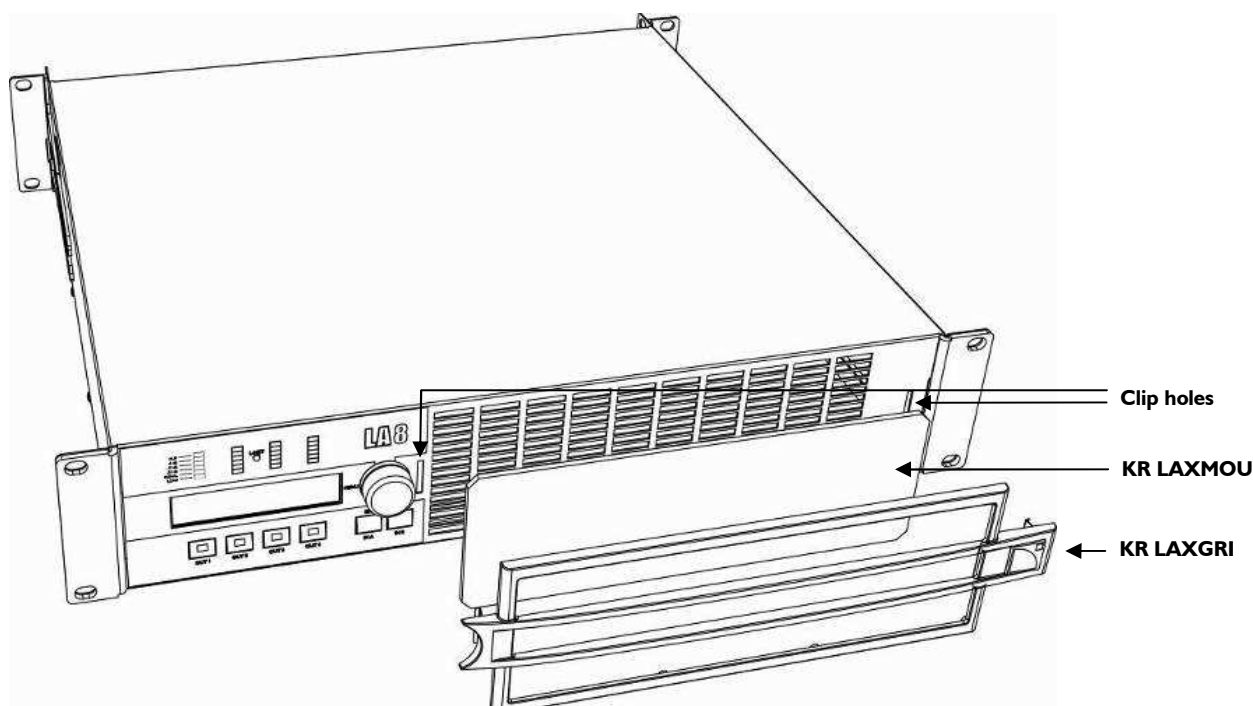

Figure 37: Front FRAME and FOAM FILTER
The replacement kits (KR) available for the customer are shown in Figure 37 and listed in Table 7 with reference to the corresponding service procedure.